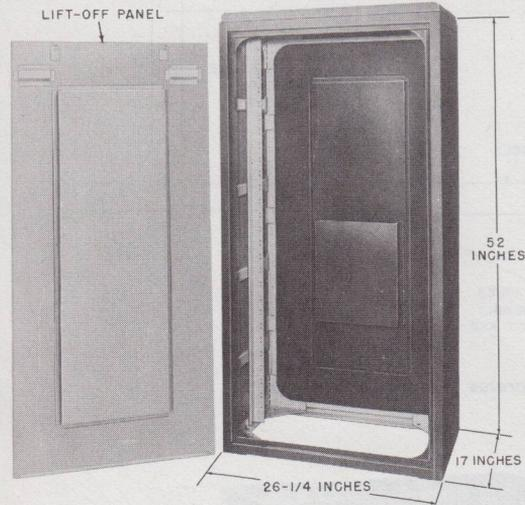

Fig. 12—26-Plate Apparatus Cabinet Per ED-92185-70
2.13 The 26-plate apparatus cabinet per ED-92185-70* (Fig. 12) is a metal cabinet with a fixed mounting frame having a hinged door in front and lift-off panel in back. It is drilled for floor mounting.